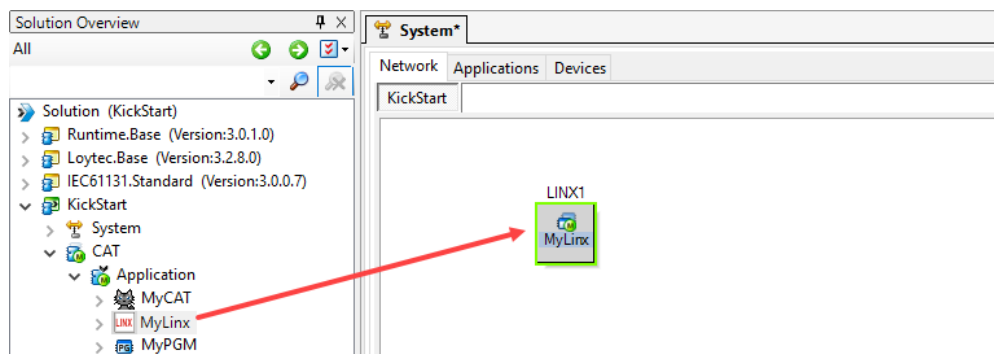

Figure 52: Create a device instance.
19. Finally create a device instance. Open the System  in the toolbar. Then select the **Network** tab. Drag the 'MyLinx' device from the solution tree onto the network tab and assign a name to the device instance as shown in Figure 52.